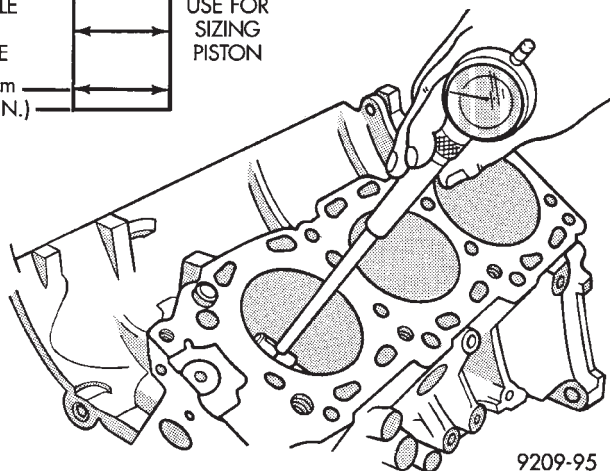

Fig. 5 Checking Cylinder Bore Size
(1) Measure the cylinder bore at three levels in directions A and B (Fig. 5). Top measurement should